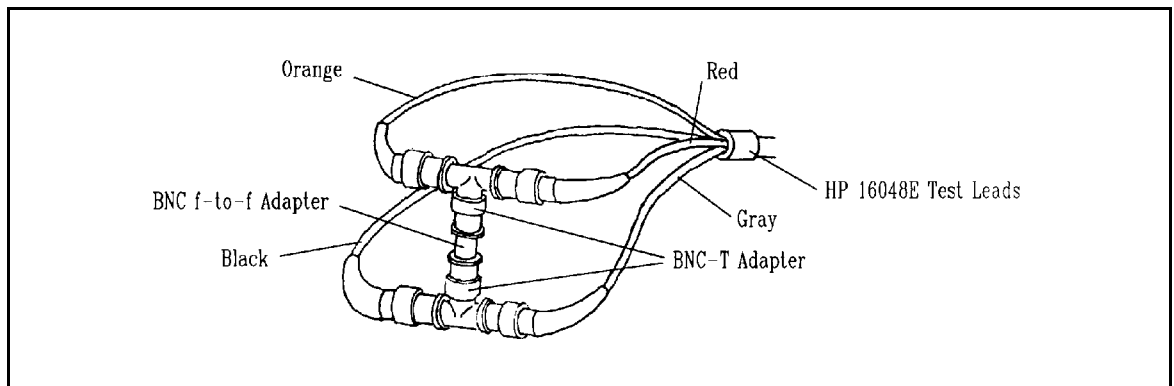

Figure 3-37. Test Leads Connections for SHORT Correction
11. Connect the BNC female adapters connected to the test leads using a BNC f-to-f adapter as shown in Figure 3-37, and select **MEAS SHORT** softkey. The SHORT correction starts immediately.